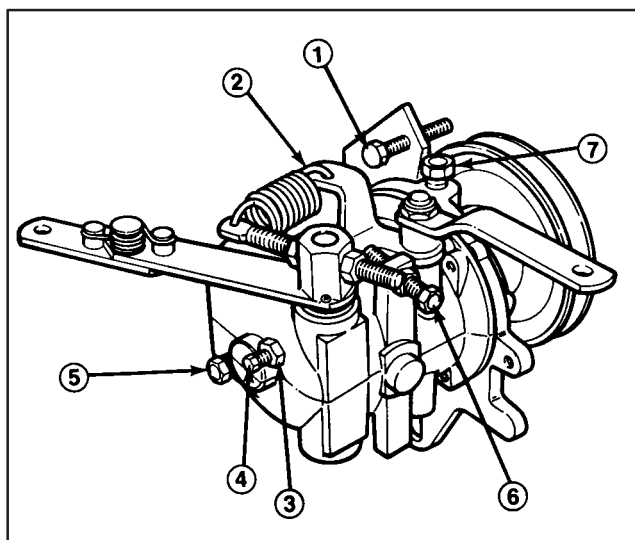

Figure 37
6. Slowly move throttle to FAST position until engine speed reaches 3200 ± 100 rpm. Shut off engine. Adjust high idle stop screw until it contacts speed control lever (Fig. 37).
8. Check V-belts from engine to governor pulley and assure they are tight. If belts are loose, the engine will surge. If belts are tensioned properly, loosen jam nut that retains the anti-surge screw (Fig. 37). Rotate screw clockwise 1/8 turn at a time until surging stops. Should governor continue to surge, check the following:
3. Clean area around check plug on governor (Fig. 37)